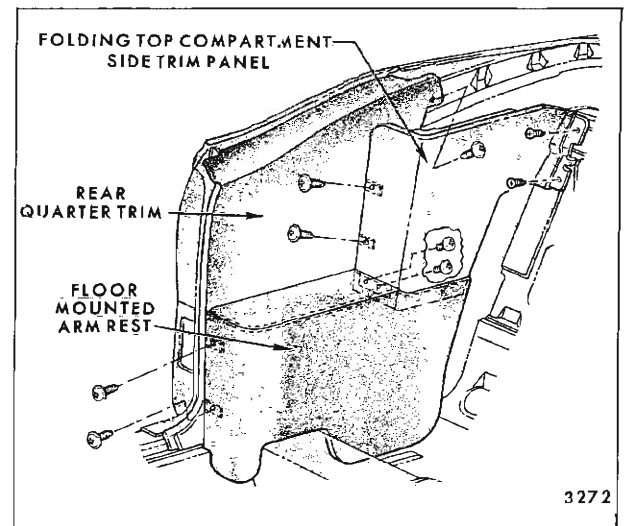

Fig. 14-22—Rear Quarter Trim - "67" Styles - "A" Body Shown, "B-C" Body Similar
**NOTE:** On all convertible styles except Cadillac, the floor mounted arm rest is subassembled to the folding top compartment side trim panel and must be removed as an assembly (Fig. 14-22).
- c. On convertible styles, remove exposed screws securing folding top compartment side trim panel (Fig. 14-22).